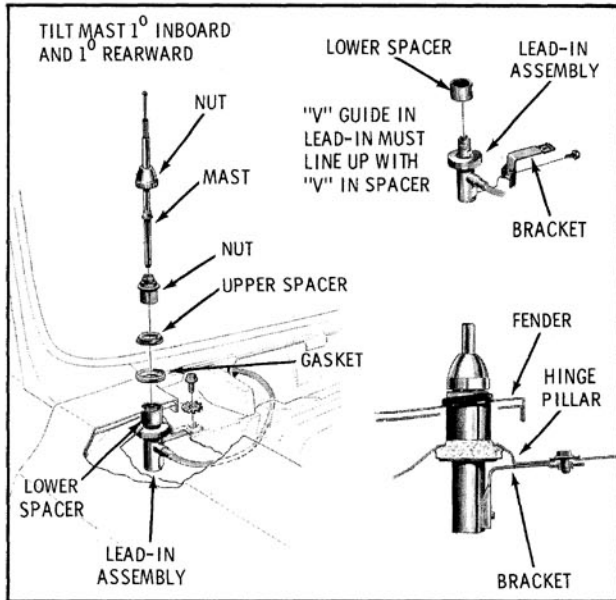

Fig. 12-129 Manual Antenna
4. Remove lead-in nut, upper spacer and gasket. (Fig. 12-129)
When installing, be sure to align the lower spacer to the lead-in as illustrated in Fig. 12-129.